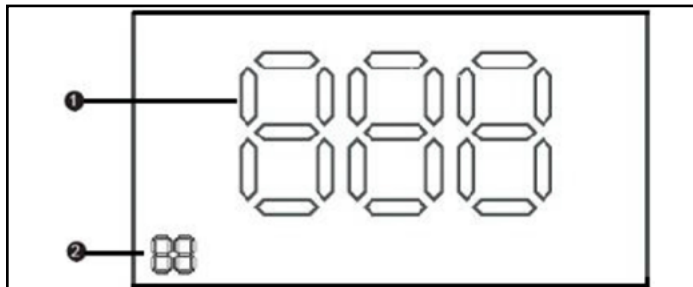

Figure 11 - Diagnostic Function Screen Shot
Table 6 - Diagnostic Function List - See Figure 11 for location of Value (1) and Display Code (2)